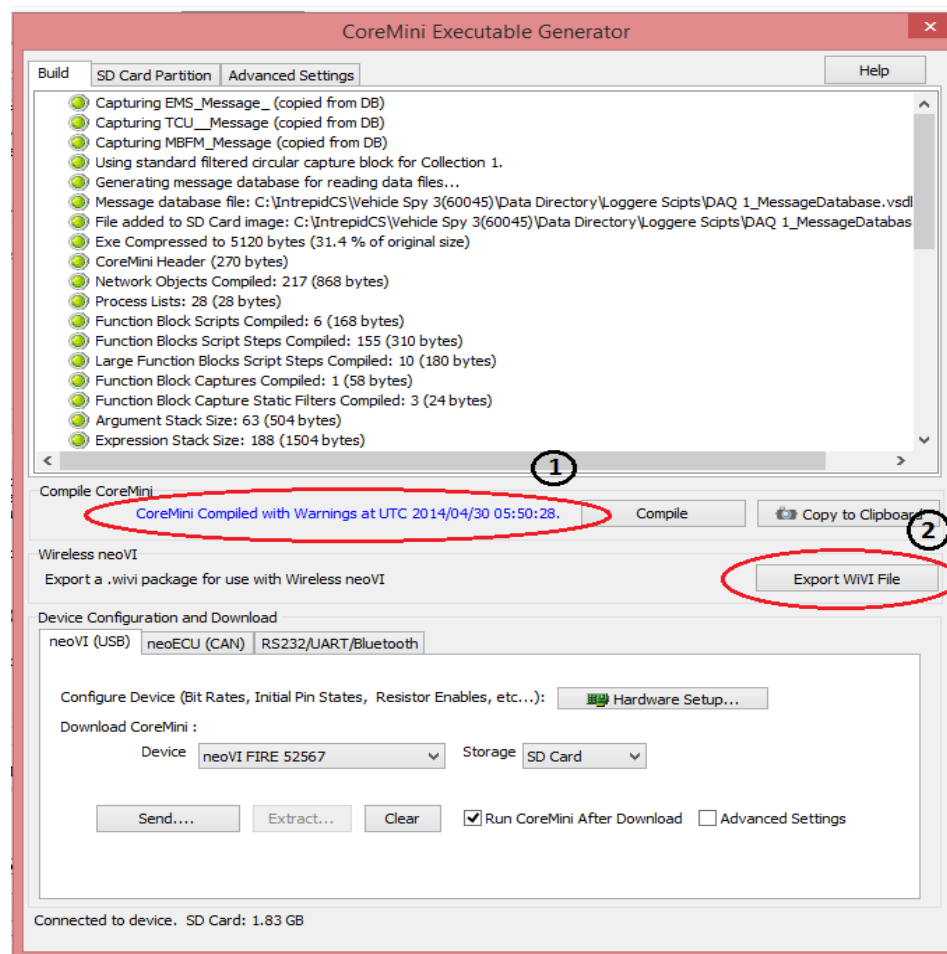

Figure 9: Settings for compiled Wivi file
- Make sure that coremini compiled without error (Figure 9 (1)).
- Click on 'Export wivi file' option (Figure 9 (2)). It will export wivi file then Save file in destination folder